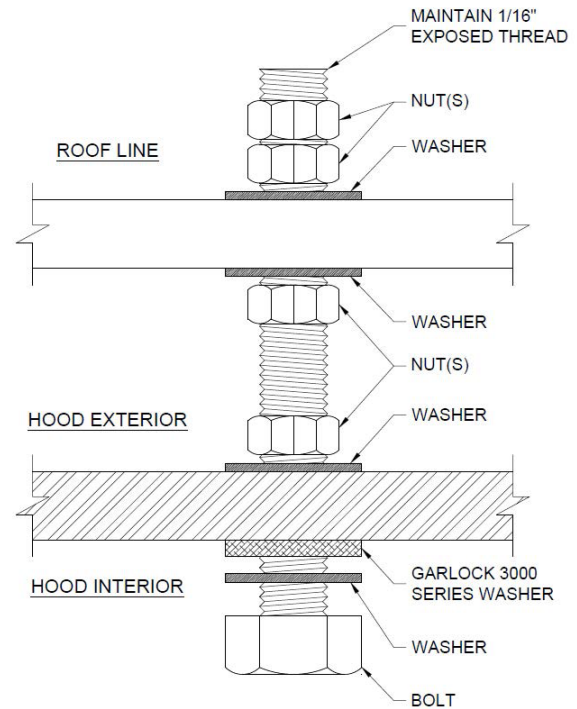

FIGURE 3
7. See instructions for using Concession Hood Bolt Kit (Figure 3) to complete hood attachment.